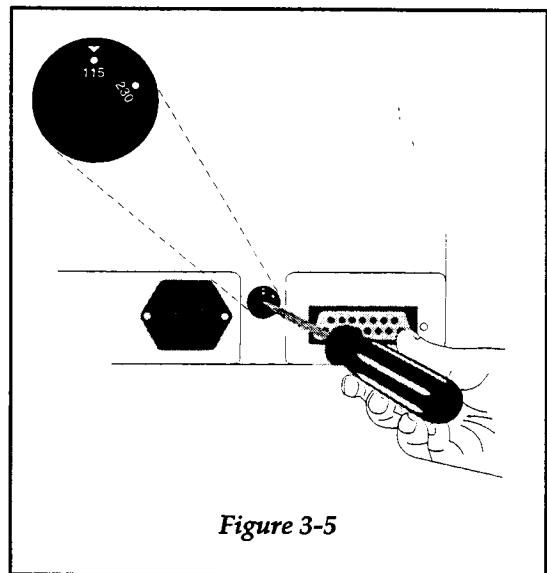

Figure 3-5
Step 4 Make sure the voltage selector switch on the back of the unit is set correctly. Figure 3-5.